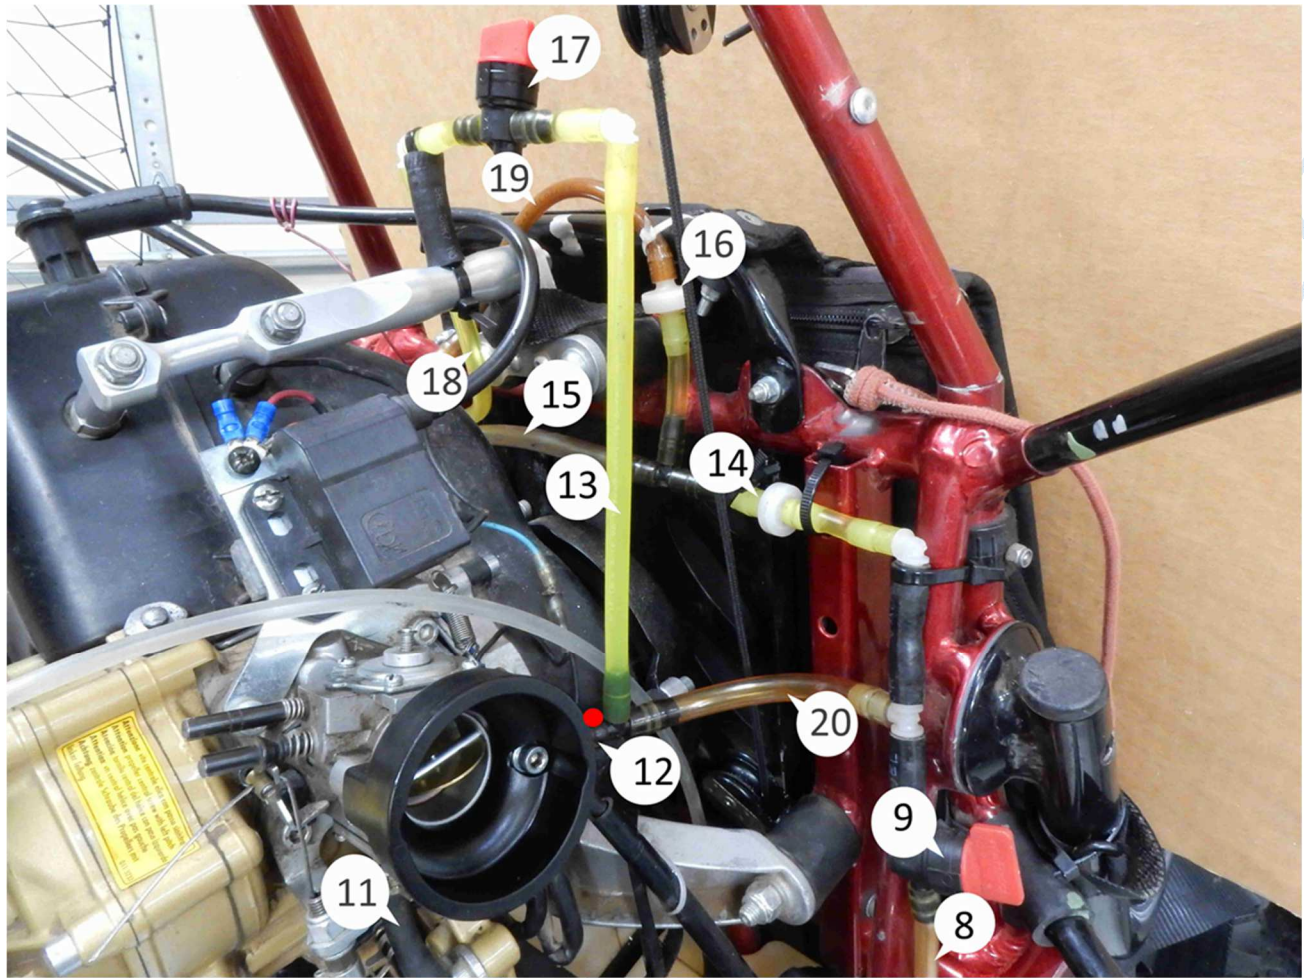

Figure 1
3. Purging the system – Fill the fuel tank half full or more. Purge the fuel system by using the priming tube. Pump at least 1 cup/250ml of fuel out the carburetor inlet line #12 (figure 1 p. 4) that was left disconnected per the FSM Installation Instructions, step #11.
5. Open the coarse pressure adjustment valve #9 (figure 1) to 45° CW or CCW off vertical, depending on how the valve was installed. Close the manometer tube valve #17 (figure 1).
When priming the system through a primer tube VLCP Green #16 (figure 1) can make a "honking" sound and prevent the fuel tank from being pressurized. The remedy is quick and simple. De-pressurize the tank briefly or take a finger and cover the VLCP Green air vent for a moment. As the VLCP's age due to the presence of gasoline and other additives, the honking sound can happen more often. To keep complexity and cost to a minimum, this harmless and brief annoyance will continue.
9. Adjust the coarse pressure adjustment valve #9 (figure 1) so that the fuel level in manometer tube is at the mark made during the installation. There should be a strong stream of bubbles moving through the fuel overflow line #15 (figure 1). The presence of the bubble stream indicates that the auxiliary fuel pump and the VLCP's are operating correctly.
13. Fully open valve #17 (figure 1). The fuel level should be at the mark on the manometer tube or between 4 & 5 inches higher than the carburetor inlet. This is the pressure (height of the fuel) that is needed to open VLCP Red #14 (figure 1) and create the air bubble stream in the overflow line.
The VLCP system is self-regulating when the coarse pressure adjustment valve #9 (figure 1) is set correctly. Before every flight it is a good idea to check the fuel height in the manometer tube and be sure that the fuel overflow line has a strong stream of air bubbles.
16. It is important to check VLCP Green #16 (figure 1) for functionality while the engine is running. It must not be in the open mode (defective) or installed backwards. If it is, it will be impossible to prime the system by pressurizing the fuel tank. An open or reversed VLCP Green could result in a fuel exiting the vent line/hose that exits the top of the regulator or yield poor performance of the FSM due to negative pressure on the fuel entering the carburetor. To test the regulator: close the fuel overflow line #15 (figure 1) using a fuel line clamp that will not damage the fuel line (available from <https://www.lislecorp.com>). Note: the test may cause the engine to flood and stop.
ABSOLUTELY NO FUEL SHOULD COME OUT THE VENT LINE CONNECTED TO VLCP GREEN #16 (figure 1)